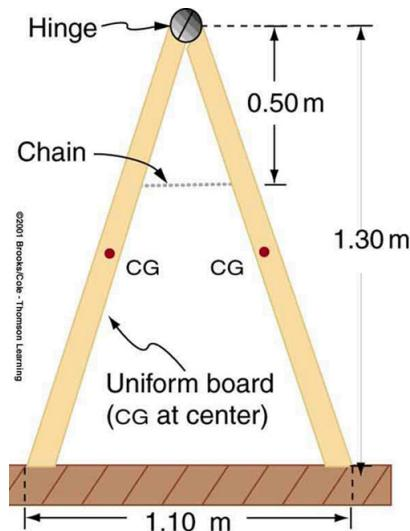

FIGURE 9.33 A sandwich board advertising sign demonstrates tension.
- 14.** A sandwich board advertising sign is constructed as shown in Figure 9.33. The sign's mass is 8.00 kg. (a) Calculate the tension in the chain assuming no friction between the legs and the sidewalk. (b) What force is exerted by each side on the hinge?
- 15.** (a) What minimum coefficient of friction is needed between the legs and the ground to keep the sign in Figure 9.33 in the position shown if the chain breaks? (b) What force is exerted by each side on the hinge?